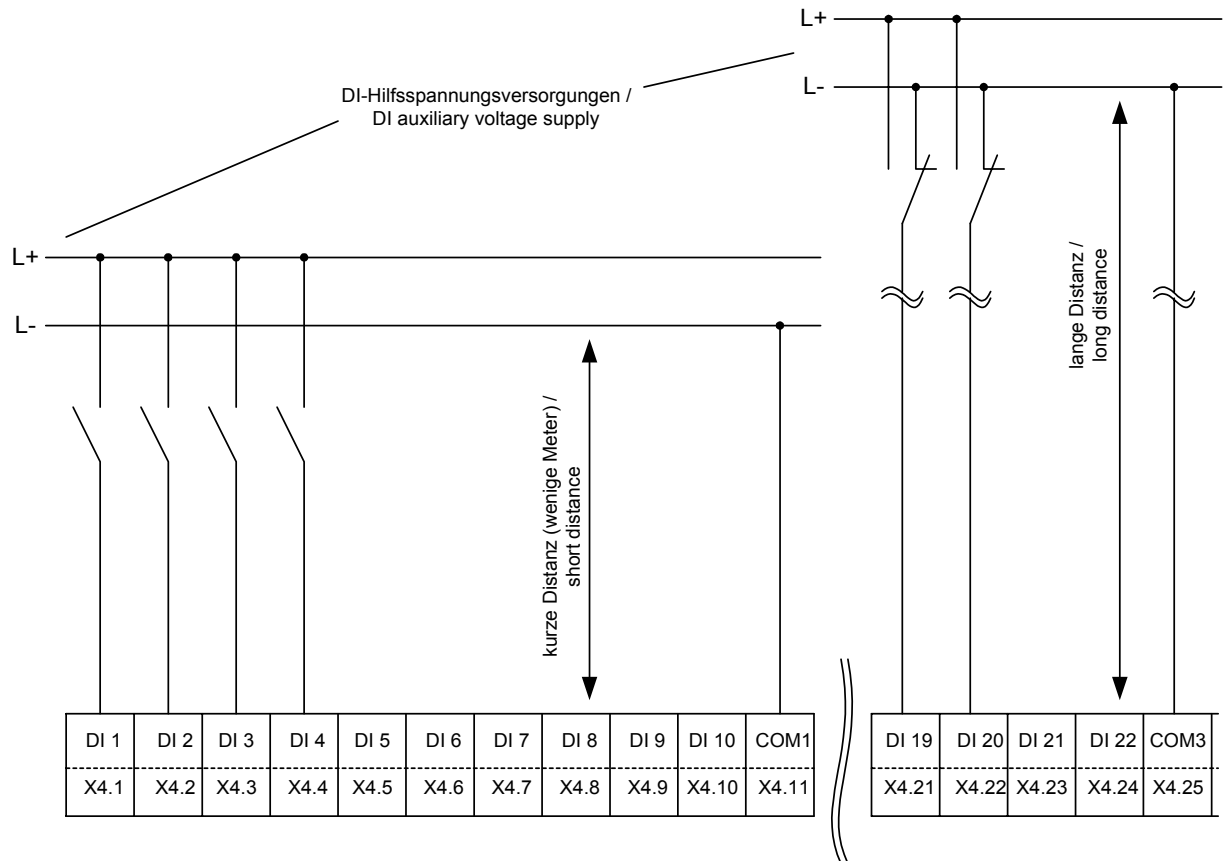

Figure 2.20: Connection of the digital inputs of a group
- The contacts for signals to the digital inputs must be available as changeover contact (periphery) so that in the unswitched state the normally closed contact conducts the signal line to the same potential as that of the common return wire (see Figure 2.20). Thereby the arising antenna effect will be eliminated.